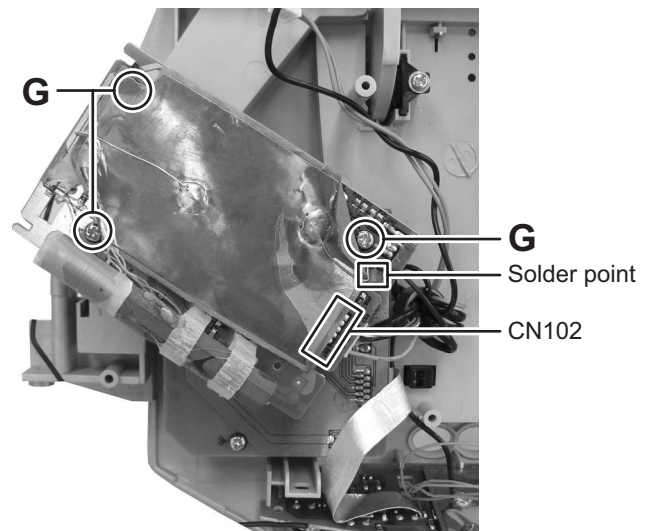

Fig.11
3.1.6 Removing the Tuner board assembly (See Fig.11)